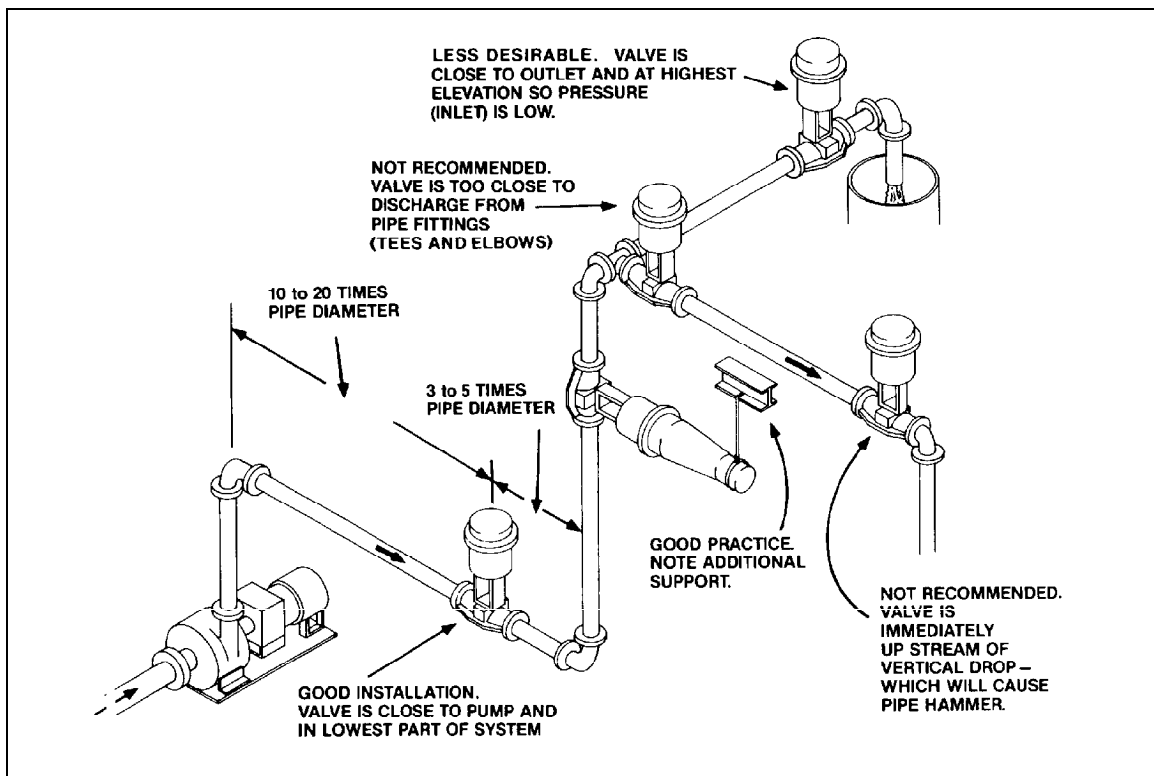

Fig 1
2. Allow a long straight run into and out of throttling valves. A good rule of thumb is 10 to 20 pipe diameters up stream, and 3 to 5 pipe diameters down stream. (See Fig. 1)